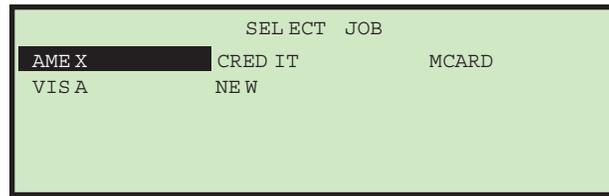

Figure 3-14: Select Job screen
7. Press the Up/Down arrow buttons to go to **CHANGE JOB** and press the **Enter** button. The Select Job screen appears (Figure 3-14).